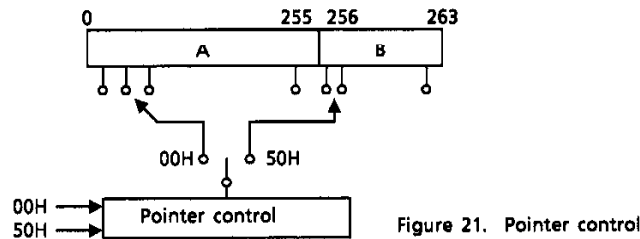

Figure 21. Pointer control
(2) Pointer control for 00H and 50H
The TC58V16 has two Read modes, which respectively set the pointer to point to either the main memory area of a page or to the redundancy area. The pointer can be set to point to any location from 0 to 255 in Read mode (1) and to any location from 256 to 263 in Read mode (2). Figure 21 shows a block diagram of their operations.